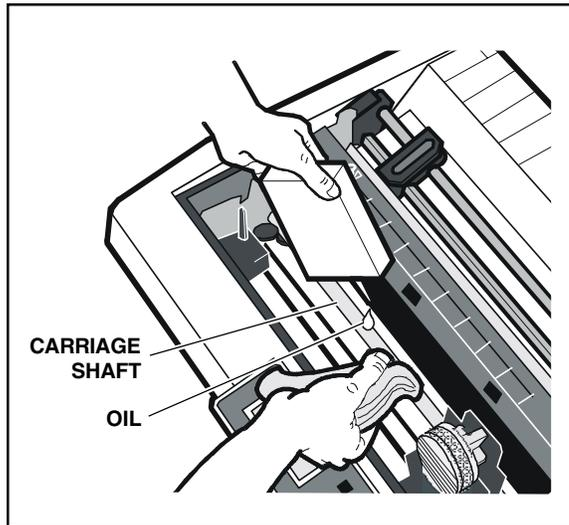

Figure 5-2. Cleaning the Carriage Shaft
4. While holding the cloth below the shaft, apply two or three drops of oil, as shown in figure 5-2. Then, slowly slide the carriage along the shaft and stop at the far left side.